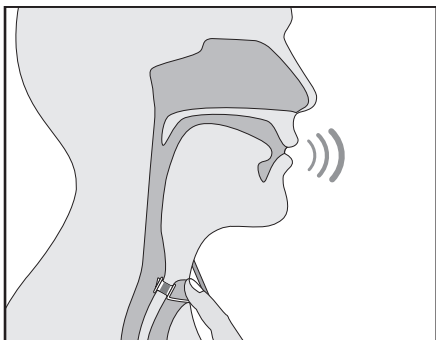
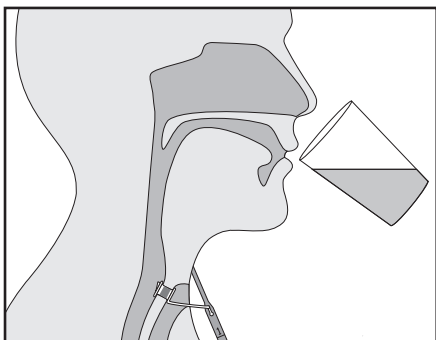

Figure 12
Figure 13
7. **Check valve function** by asking the patient to speak (Fig. 12) and by observing the prosthesis while the patient drinks water (Fig. 13).